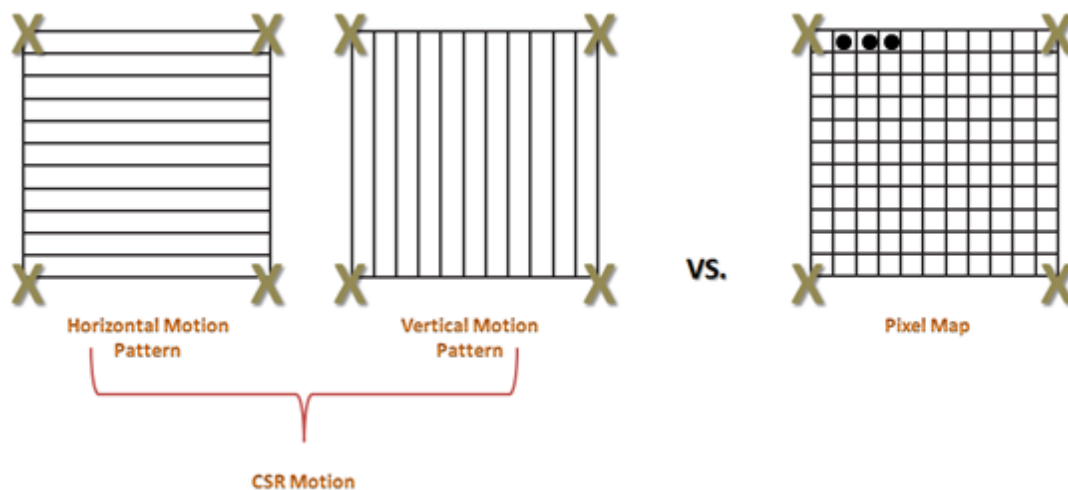
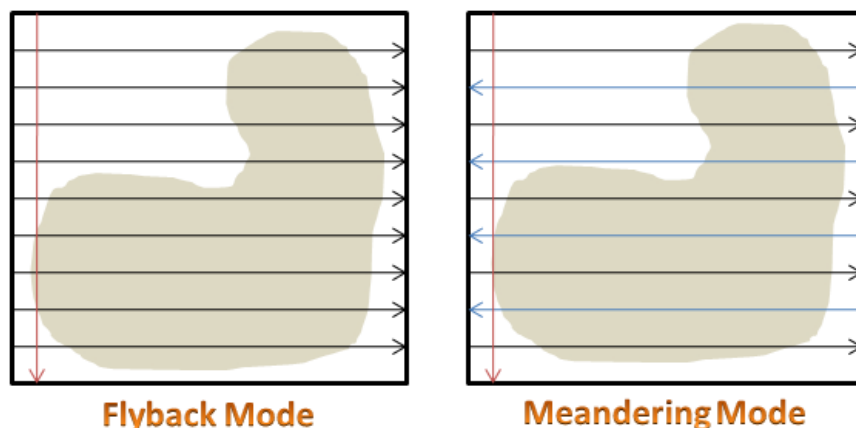

Figure 1 CSR Mode vs. Pixel Map Mode
Figure 2 Flyback Mode vs. Meandering Mode
The two different options that can be used for the AP-MALDI zoom mode include the constant speed raster motion (CSR) and pixel map, which can be seen in Figure 1. Both options have two different scan patterns that are available for use, which include the flyback and meandering modes displayed in Figure 2. The flyback mode includes line scans that move in the same direction (horizontally and vertically), while the meandering mode's line scans move in alternating directions so that the total scan time is minimal.
2. Spot the solution two more times so that the spots form a right triangle; more specifically, the spots will act as the endpoints (see Figure 1). Each spot should be approximately 1 mm (in distance) from the original point; try to avoid having the samples touch one another.